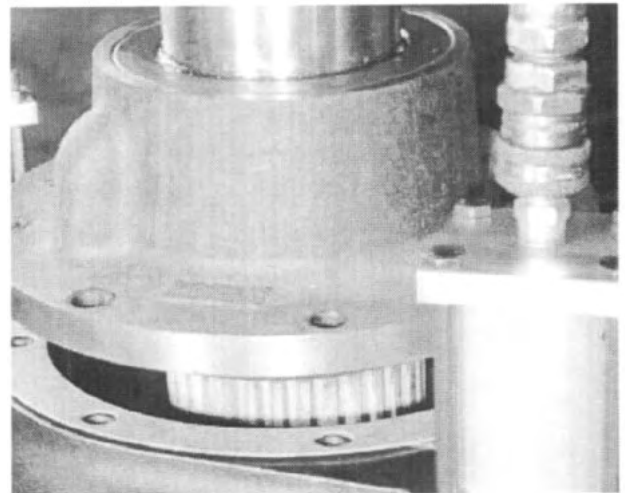

Fig. 87
26. With air pressure still applied, install a new gasket onto the declutch housing. Install the front output shaft and carrier assembly. Torque the attachment hardware to specification. *See Fig. 87.*